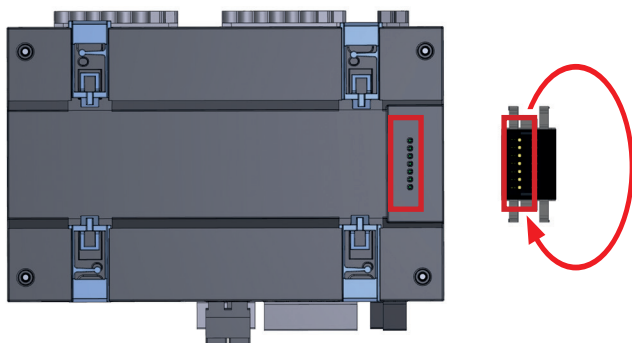

Fig. 1 - Installing the bus connector:
1. Check the installation of the bus connector (included in scope of delivery, pre-assembled) on the back of your device. If not already done, plug the contacts of the bus connector into the sockets on the back of the measurement device (see Figures 1 - 3).